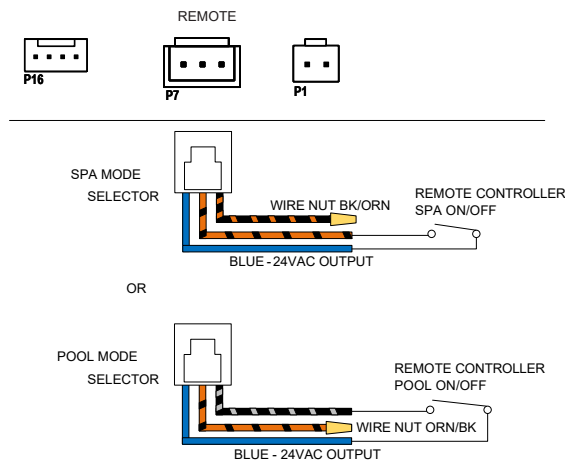

Figure 62. 2-Wire Remote Harness Installation
- On the 3-wire remote harness, connect the BLUE wire to one side of the remote automation controller and connect the other side to either the ORANGE/BLACK wire for "SPA" operation or the BLACK/ORANGE wire for "POOL" operation. See **Figure 62**.
- Install the "3-wire Remote Harness" to the "P7" connector and turn power "ON" to the heater. See **Figure 62**.